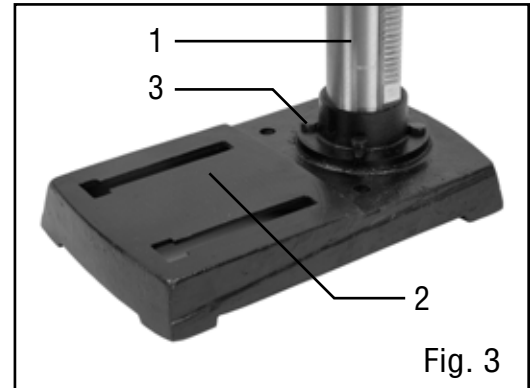

Fig. 3
ATTACHING COLUMN TO BASE (FIG. 3)
1. Place the column tube (Fig. 3 - 1) on the base (Fig. 3 - 2), aligning the column support holes to the base holes.
2. Install a hex head bolt (Fig. 3 - 3) in each column support hole and tighten bolts using an adjustable wrench (not included).